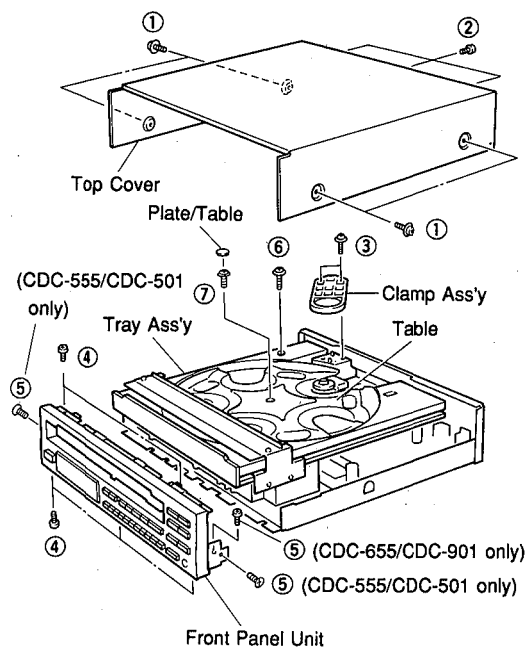

Fig. 1
- a. Remove 4 screws (①) and also 3 screws (②) as shown in Fig. 1.
- a. Remove 2 screws (③) as shown in Fig. 1.
- a. Remove 5 screws (④) and also 1 or 2 screws (⑤) as shown in Fig. 1.
- c. Take off the Front Panel Unit slowly as shown in Fig. 1.
- a. Remove 1 screw (⑥) as shown in Fig. 1.
- a. Remove the Plate/Table as shown in Fig. 1.
- b. Remove 1 screw (⑦) and then take off the Table as shown in Fig. 1.